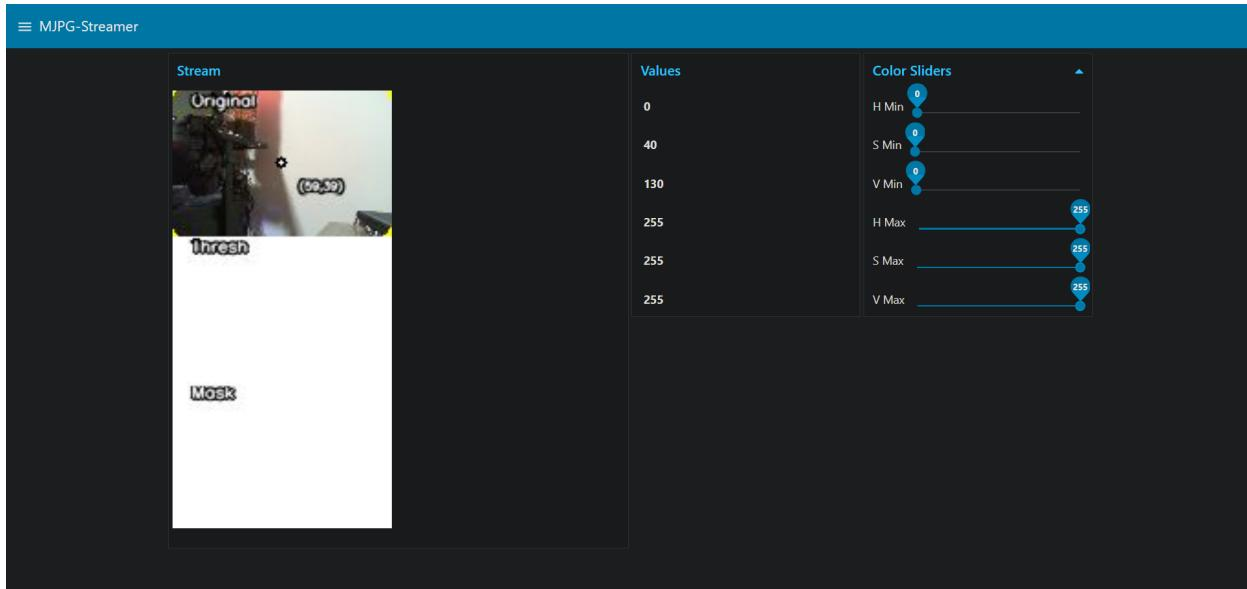

Figure 2 - Dashboard
4. Verify that your dashboard shows a video stream with 3 images, and 6 sliders which you can control as shown in Figure 2